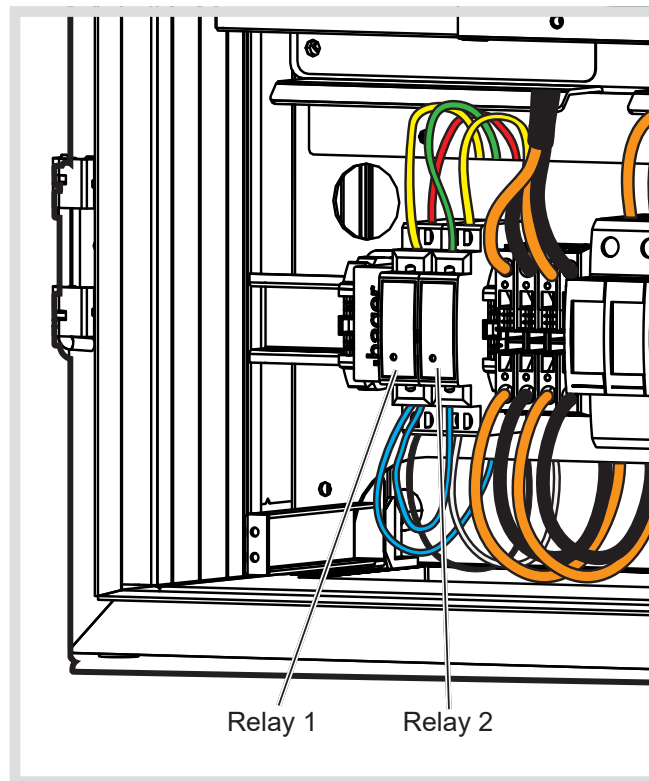

Figure 33: SG Ready relays in the main connection area
- Snap the two SG Ready relays EN145 of the SG Ready expansion set XEM250 (Figure 33) on to the DIN rail in the main connection area.
- Connect the blue strand from the grey cable of the battery controller to the A2 contacts of the two relays (Figure 33).